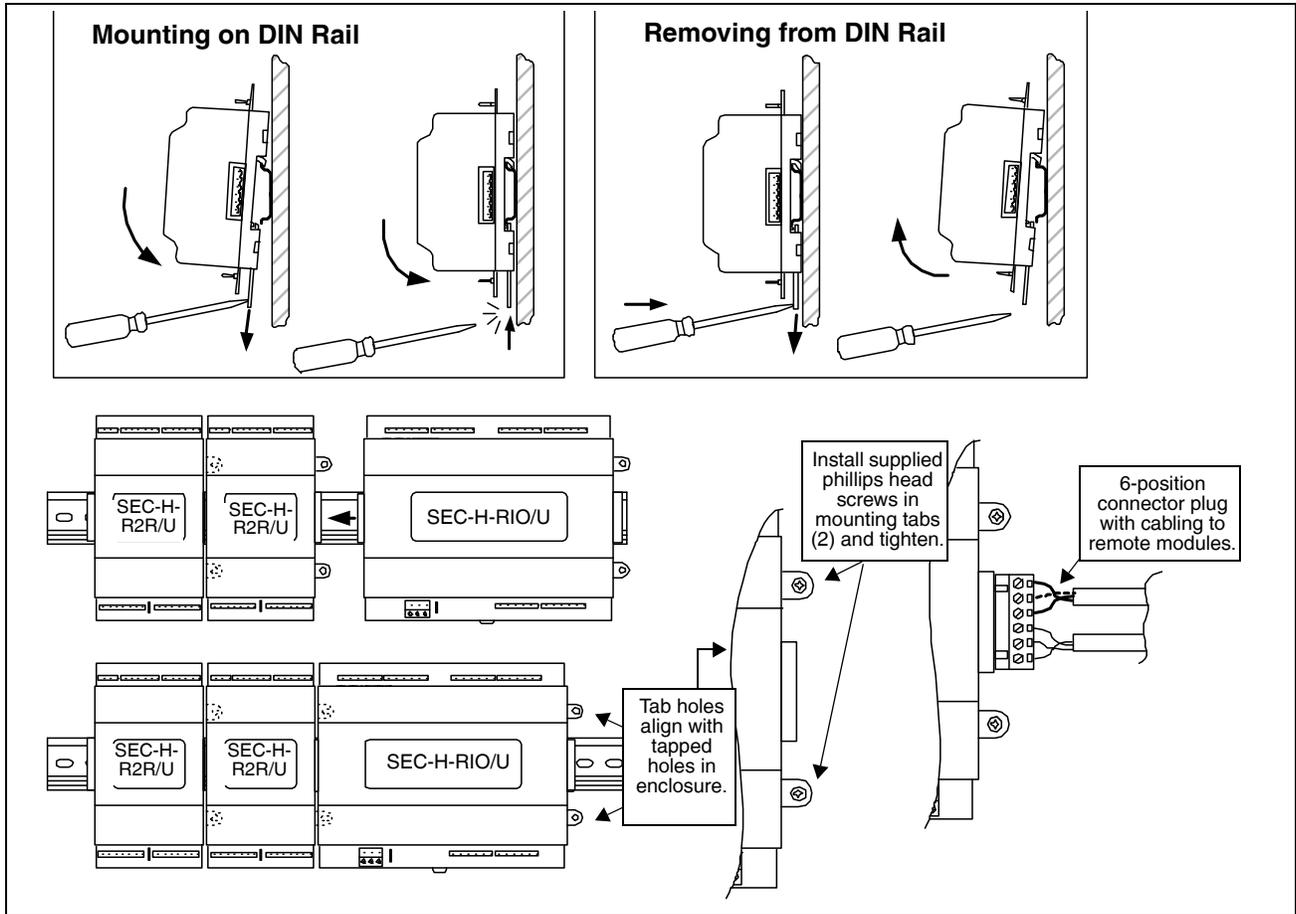

Fig. 1. Remote I/O Module module mounting details.
Note that you can plug it into the enclosure’s power supply, or (if already occupied) into another assembly of modules already mounted. See Fig. 1. on page 5. It is not necessary to remove the cover before mounting.
1. Position the SEC-H-RIO/U module on the rail, tilting to hook DIN rail tabs over one edge of the DIN rail (Fig. 1).